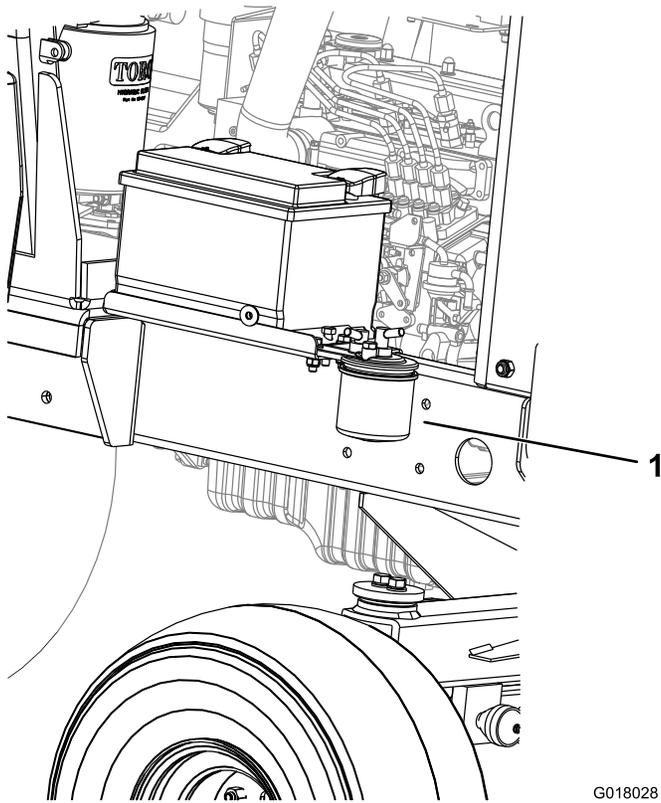

Figure 54
1. Place a clean container under the fuel filter canister (Figure 54).